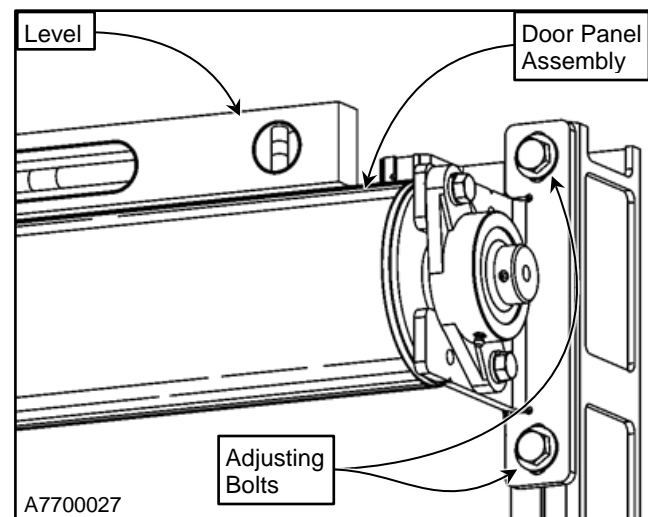

Figure 50
1. If the door panel is not tracking properly when being rolled up on the drum, verify that the door panel assembly is level as shown. Adjust as required. (See Figure 50)